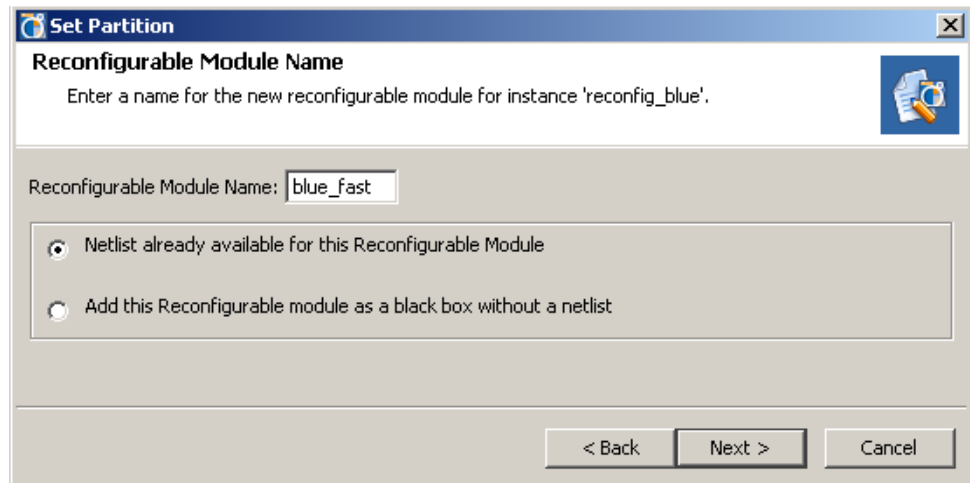

Figure 4-7: Naming the Reconfigurable Module
2. Enter a unique name for the Reconfigurable Module that corresponds to the module variant to be selected as shown in Figure 4-7.